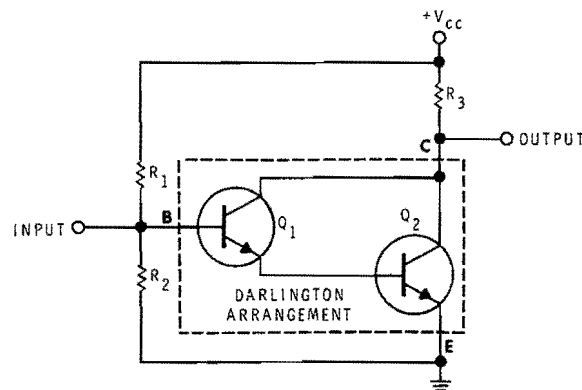

Figure 2-6
Figure 2-6 shows how two transistors can be connected together so they function as a single unit. This method of connecting transistors together is referred to as a **Darlington** arrangement. Although the two transistors in this circuit are NPN devices, the same basic arrangement can be formed with PNP transistors.
When two transistors are connected in the Darlington arrangement, or as "a Darlington pair," they effectively function as a single transistor which has emitter (E), base (B), and collector (C) leads as shown in Figure 2-6. The beta (current gain) of the first transistor is effectively multiplied by the beta of the second transistor so that the overall current gain is approximately equal to the product of the two beta values.
The Darlington arrangement in Figure 2-6 functions as a high-gain NPN transistor. This can be used in place of a single NPN transistor in various applications. In Figure 2-6, the Darlington arrangement is used in a simple DC amplifier circuit which can provide a very high voltage gain. Resistors  $R_1$  and  $R_2$  provide voltage divider bias and  $R_3$  serves as the collector load resistor. No emitter resistor is used in this circuit since it would reduce the overall voltage gain of the circuit considerably and take away the primary advantage that the Darlington circuit has to offer. Although it is true that the emitter resistor could be bypassed with a capacitor, a bypass capacitor would serve no useful function as far as DC signals are concerned. Bypass capacitors are useful only in preventing degeneration of AC signals.
In practice, the amplifier circuit of Figure 2-6 may provide slightly less gain than expected. This is because it is usually necessary to adjust the bias voltages so the input base current of  $Q_1$  is very low. Low base current is necessary to keep the emitter current of  $Q_1$  to a relatively low value, since this emitter current also serves as the base current for  $Q_2$ . If the input base current is allowed to increase by a significant amount, transistor  $Q_2$  can be quickly driven into saturation. Since  $Q_1$  must operate with a base current that is lower than normal, its beta value is also likely to be lower than normal. This means that the overall current gain of the Darlington arrangement will be reduced which, in turn, reduces the voltage gain.